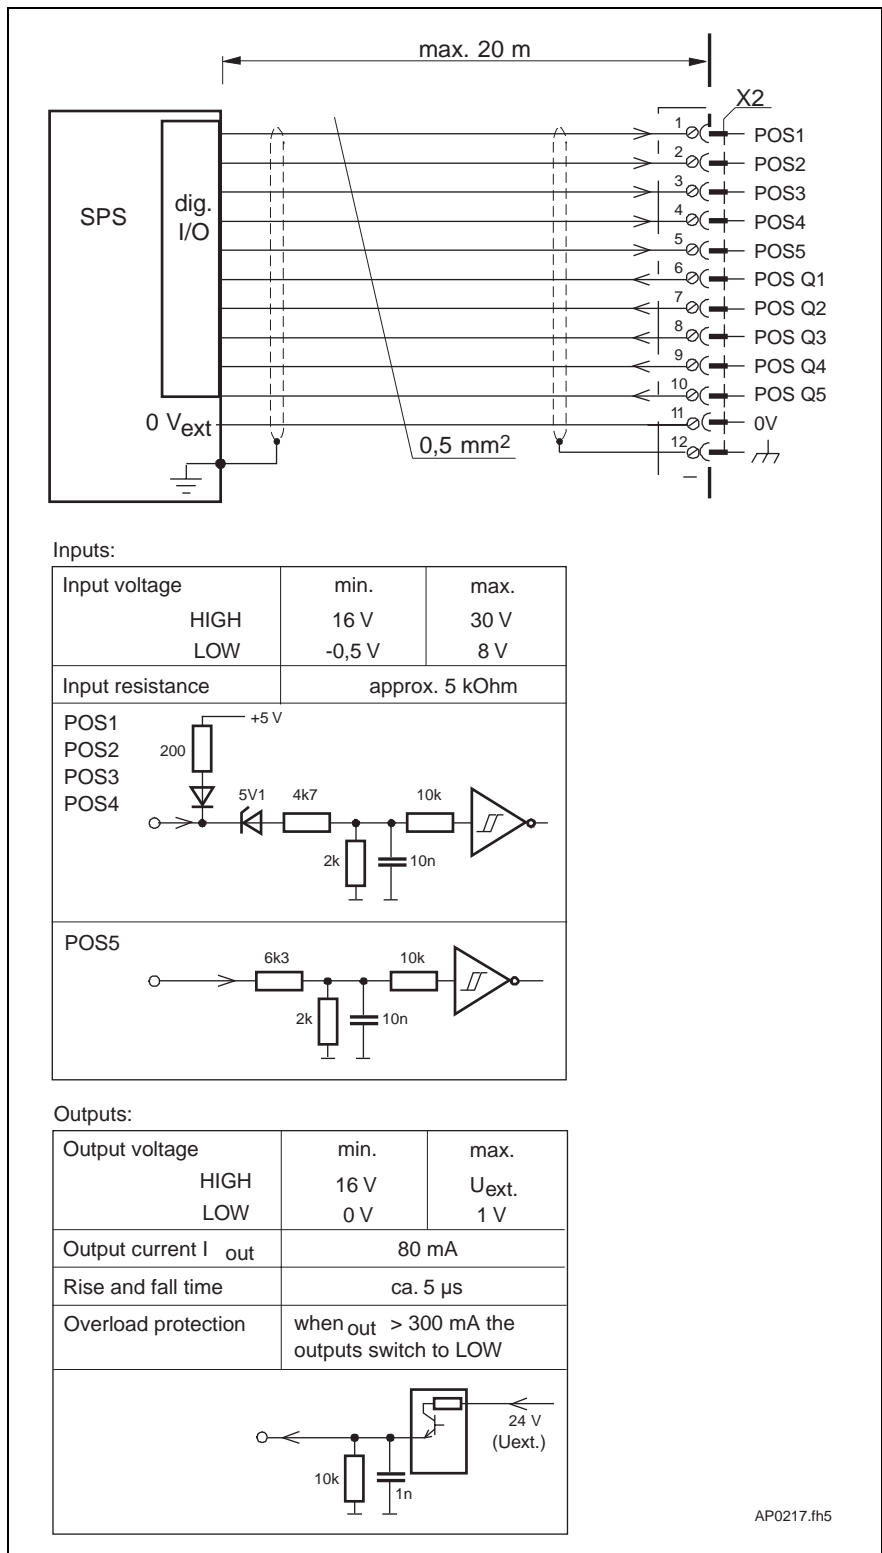
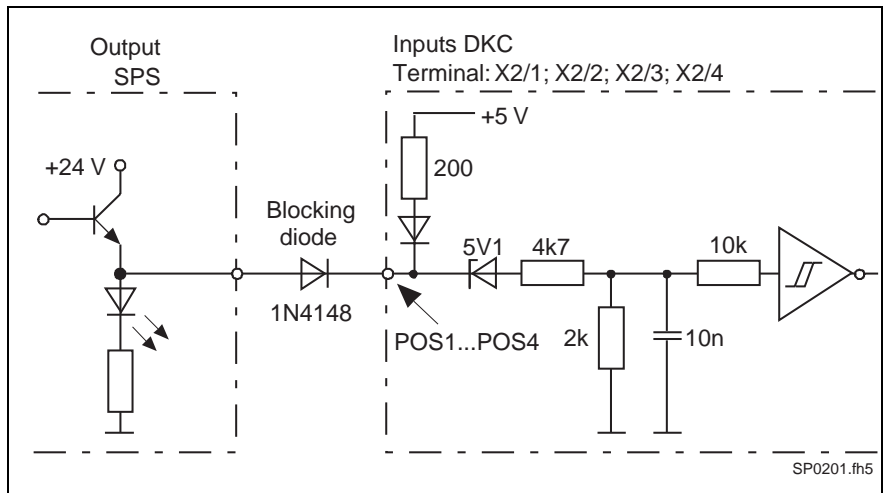

Fig. 4-28: Connecting the positioning input signals and outputs for acknowledging the positioning signals
Fig. 4-29: Circuit proposal
**Note:** If the inputs POS 1 and POS 2 in Fig. 4-28 are assigned a LOW signal, 5 volts are applied there. If a PLC is connected, this can cause the control LEDs to respond. This is prevented by an interconnected blocking diode in accordance with the circuit proposal Fig. 4-29.